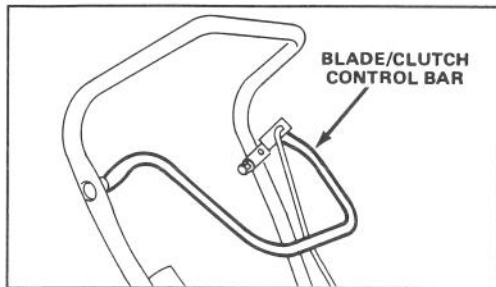
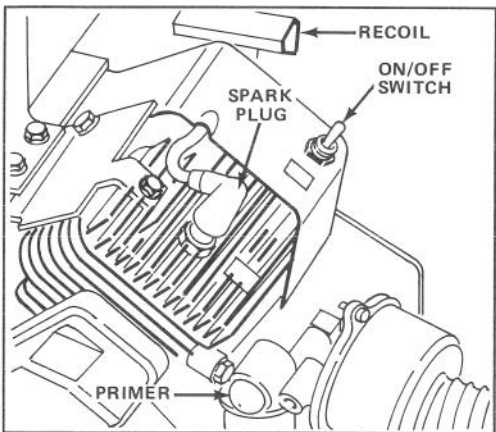
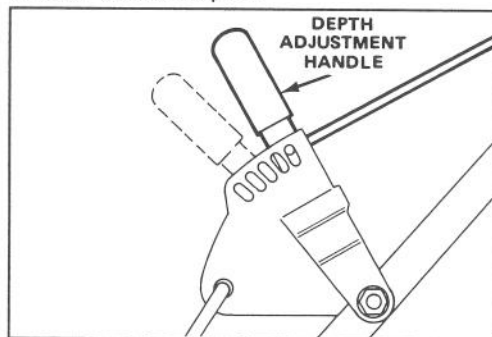

Figure 6
Figure 7
Figure 10
1. CONTROLS – Blade/Clutch control bar is on upper handle (Fig. 6) and depth adjustment handle is on left side of upper handle (Fig. 10). Primer and ON/OFF switch are engine mounted (Fig. 7).
3. EDGING – Squeeze blade/clutch control bar (Fig 6) against handle to engage blade and move cutter to preset depth. Release blade/clutch control bar to disengage blade and raise cutter head.
4. STOPPING – Release blade/clutch control bar (Fig 6) and move ON/OFF switch to OFF position.
3. ADJUSTING DEPTH (Fig. 10) – release blade/clutch control rod. Move depth adjustment handle forward to increase blade depth and rearward to decrease blade depth.